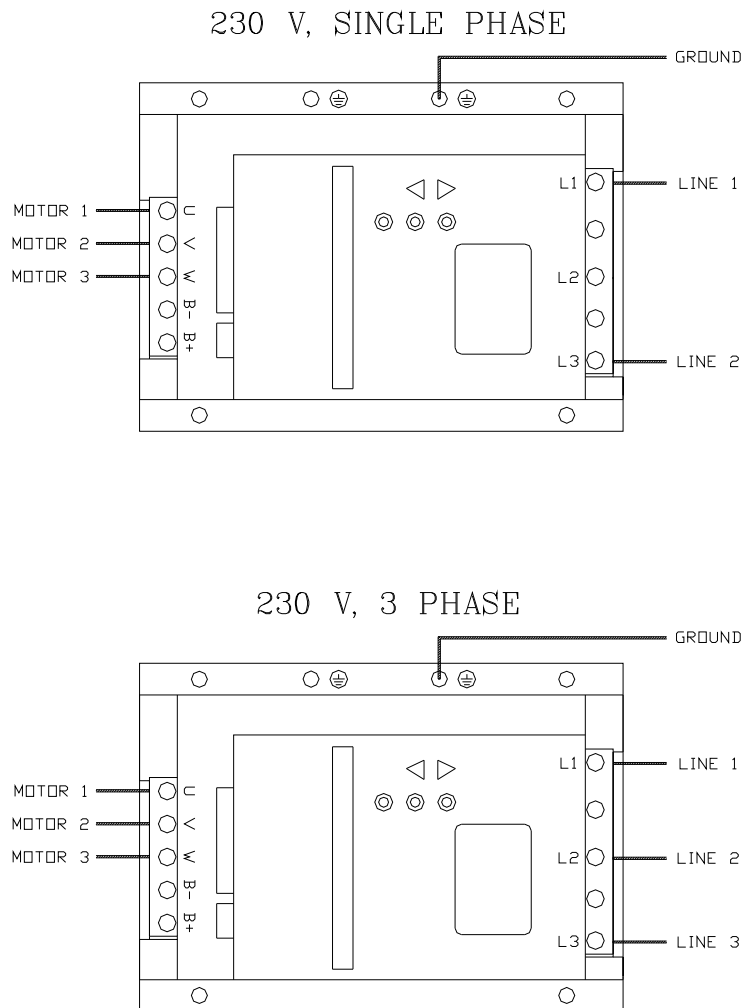

Figure 3 – AC Power Connections
1. Make the motor connections between the control unit and the pump motor (*ref. Figure 3*).